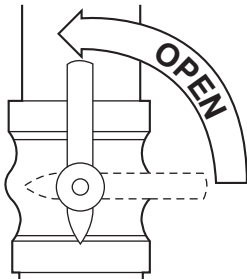

Fig. 12 – Open Valve
- Open the external manual gas valve. See Fig. 12.